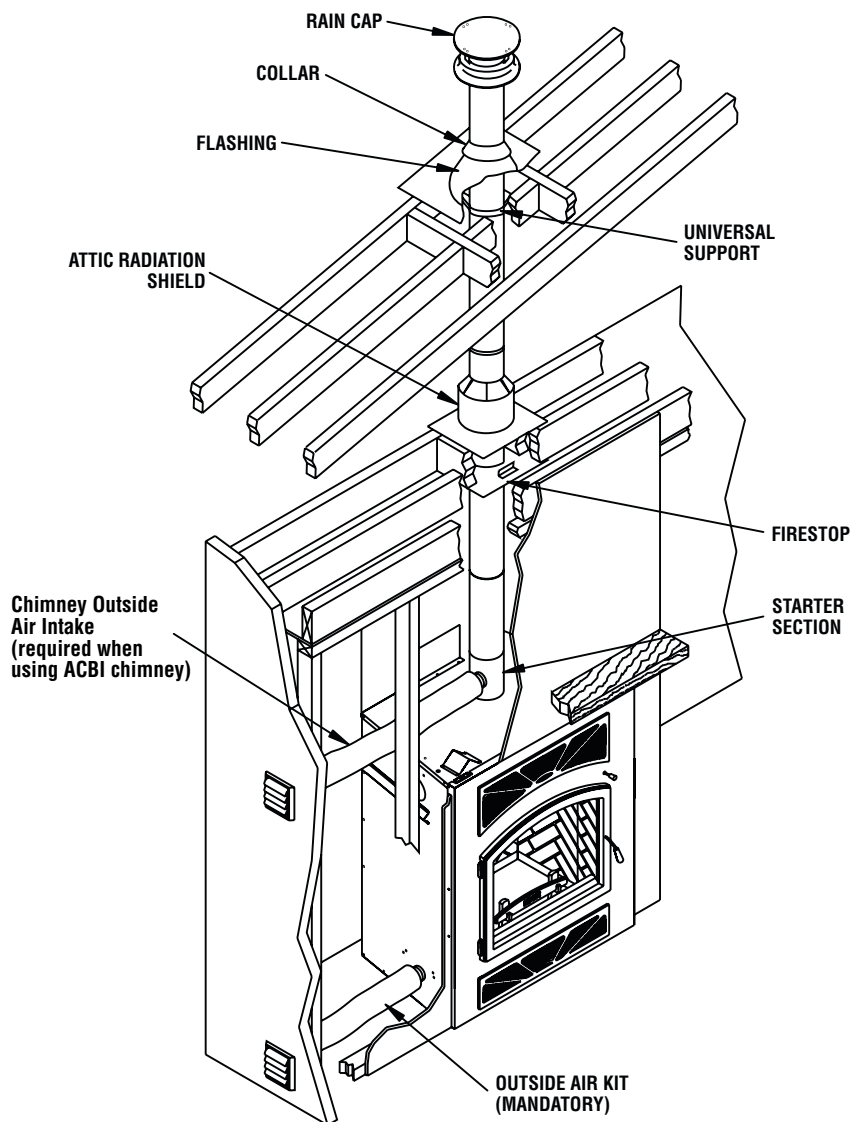
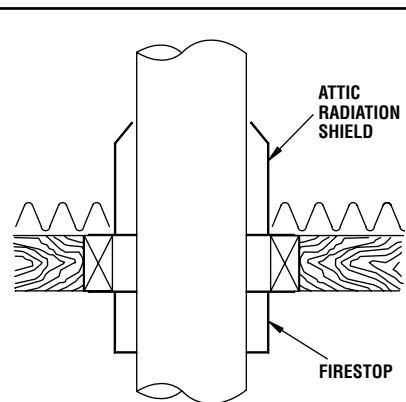

Figure 22
Figure 24
2. From below, install a firestop in each ceiling/floor separation through which the chimney will pass. At the attic level, install an attic radiation shield from above, (see **Figure 24**). S2100+ and ASHT+: Place the first chimney length on the fireplace, to lock turn 1/4 of a turn clockwise. ACBI: A starter section must be installed before installing the first chimney length (see **Figure 22**).